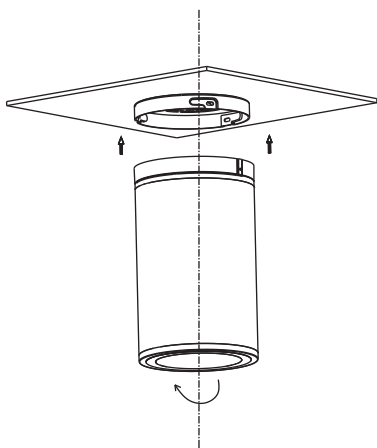

fig. 6
6. Tuck all wires inside ceiling Jbox. Align the notches on the fixture mounting canopy and "L" shape slots on the ceiling mounting plate, insert and rotate clockwise to attach the fixture to the ceiling. (Figure 6)